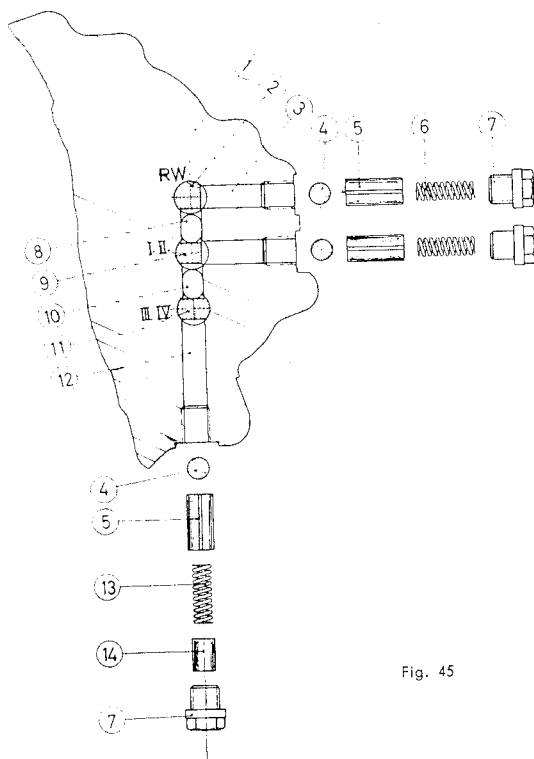

Fig. 45
③ Selector rod for reverse gear.
④ Reverse gear III (mounted on pinion shaft).
⑤ Selector rod, 1st and 2nd gear.
⑥ Plug for selector rod lock, reverse gear.
⑦ Plug for selector rod lock, 1st and 2nd gear.
⑧ Selector rod 3rd and 4th gear.
⑨ Tapped holes to extract gear.
⑩ Plug for selector rod lock, 3rd and 4th gear.
14. Remove three plugs from selector rod locks (Fig. 45, ⑥, ⑦, and ⑩).
One ball and spring fits into each of the shift lock bores of the first and second gears and the reverse gear. A ball and spring followed by a spacer tube fits into the shift lock bore of the 3rd and 4th gears (Fig. 45).
As seen in Fig. 45 interlock pins are located in the connecting passage between the shift rods for reverse and 1st and 2nd gear and between the shift rods for 1st and 2nd gear and 3rd and 4th gear.
18. Install a locking ball and spring in each of the three gear lock bores using the correct spring for reverse gear (Fig. 45).